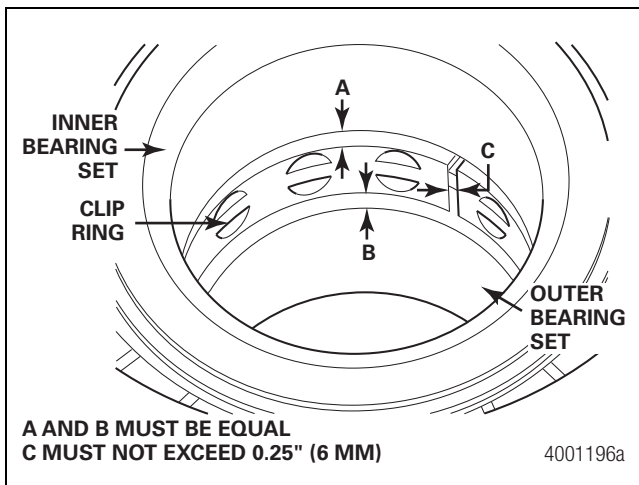

Figure 13.15
- A. The inner clip ring has not become dislodged in shipment and is in correct alignment with the inner and outer bearings. The gap between the inner and outer bearing sets and the clip ring must be equal. Figure 13.15.
- B. The gap between the ends of the clip ring must be equal and not exceed 0.25-inch (6 mm). If necessary, adjust by hand. Figure 13.15.